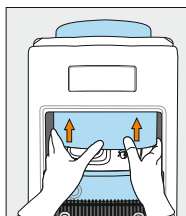
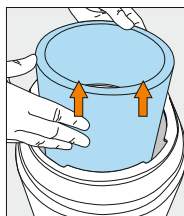

Figure 21
Figure 22
4. Use fingers of both hands to lift up and remove the insulation jacket covering the reservoir, from the cooler opening. (Figure 21 and Figure 22)